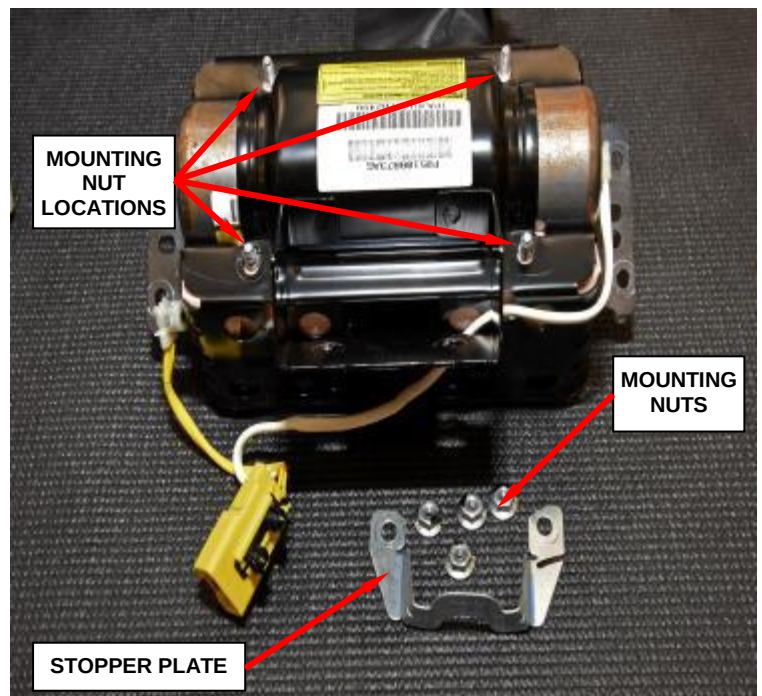

Figure 98 – Mounting Nuts and Stopper Plate
- Use pliers to grasp the single yellow wire inflator connector then wiggle as you pull up until it is disconnected from the inflator (Figure 98).